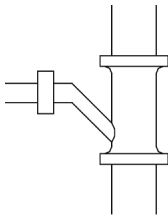

Fig 4.3.6
a. drainage pipe joint connection (Fig 4.3.6)